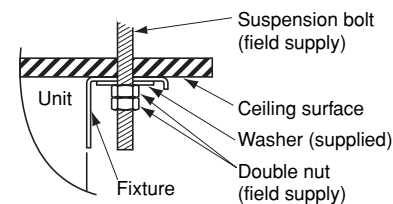
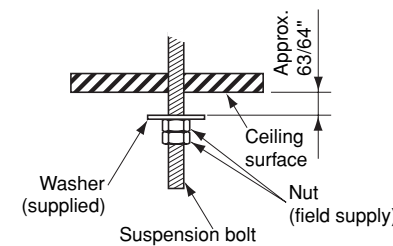

Fig. 3-97
Fig. 3-99
- (6) Carry out the preparation for suspending the indoor unit. The suspension method varies depending on whether there is a suspended ceiling or not. (Figs. 3-97 and 3-98)
- (7) Suspend the indoor unit as follows:
- a) Mount 1 washer and 2 hexagonal nuts on each suspension bolt as shown in Fig. 3-99.